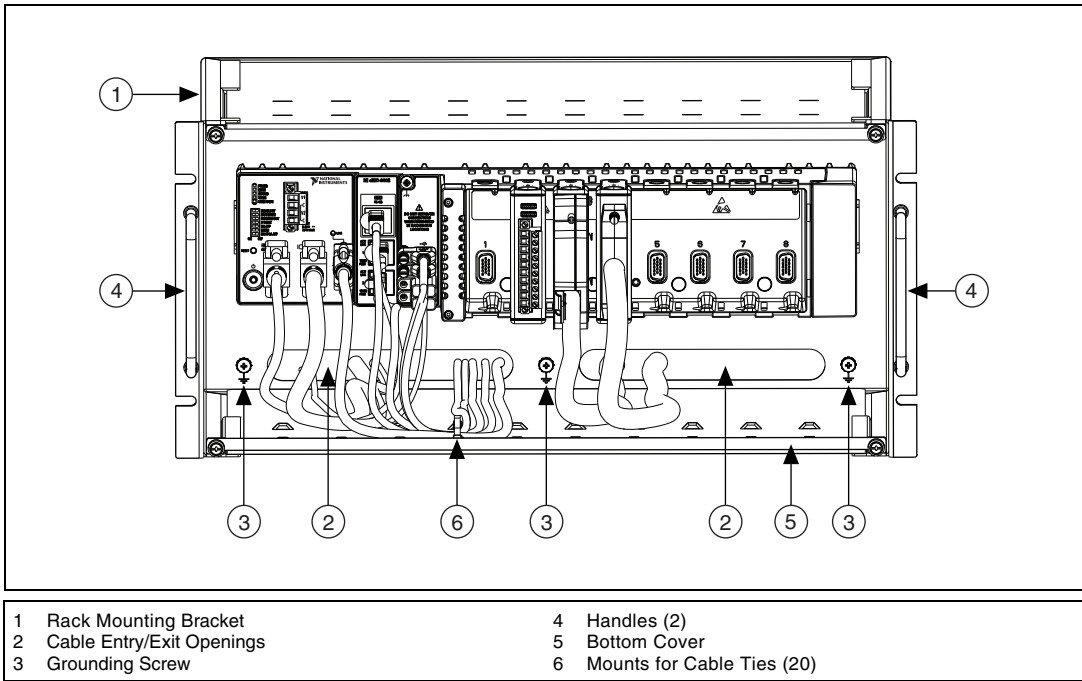

Figure 5. NI cRIO-908x Mounted in Bracket, Front View
- Connect the chassis ground wire to the bracket grounding screw. Refer to Figure 5 for the location of the bracket grounding screw.
7. Install cable ties (not included) to relieve strain on the cables if necessary. You can attach cable ties to the mounts on the top and bottom covers. Figure 5 does not show the top covers, but the top and bottom covers are identical.